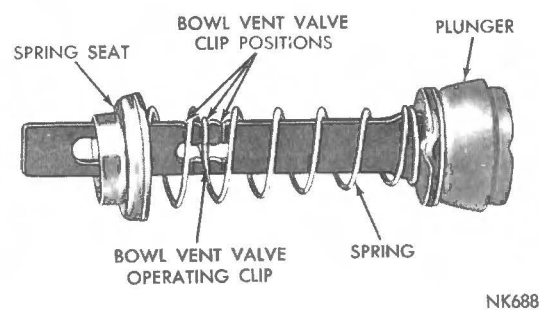

Fig. 10 Accelerator Pump Assembly
(1) Assemble the pump plunger, spring and spring seat, as shown in (Fig. 10). Slide plunger shaft through opening in air horn. Install bowl vent valve over plunger shaft, then engage with pump rocker arm.